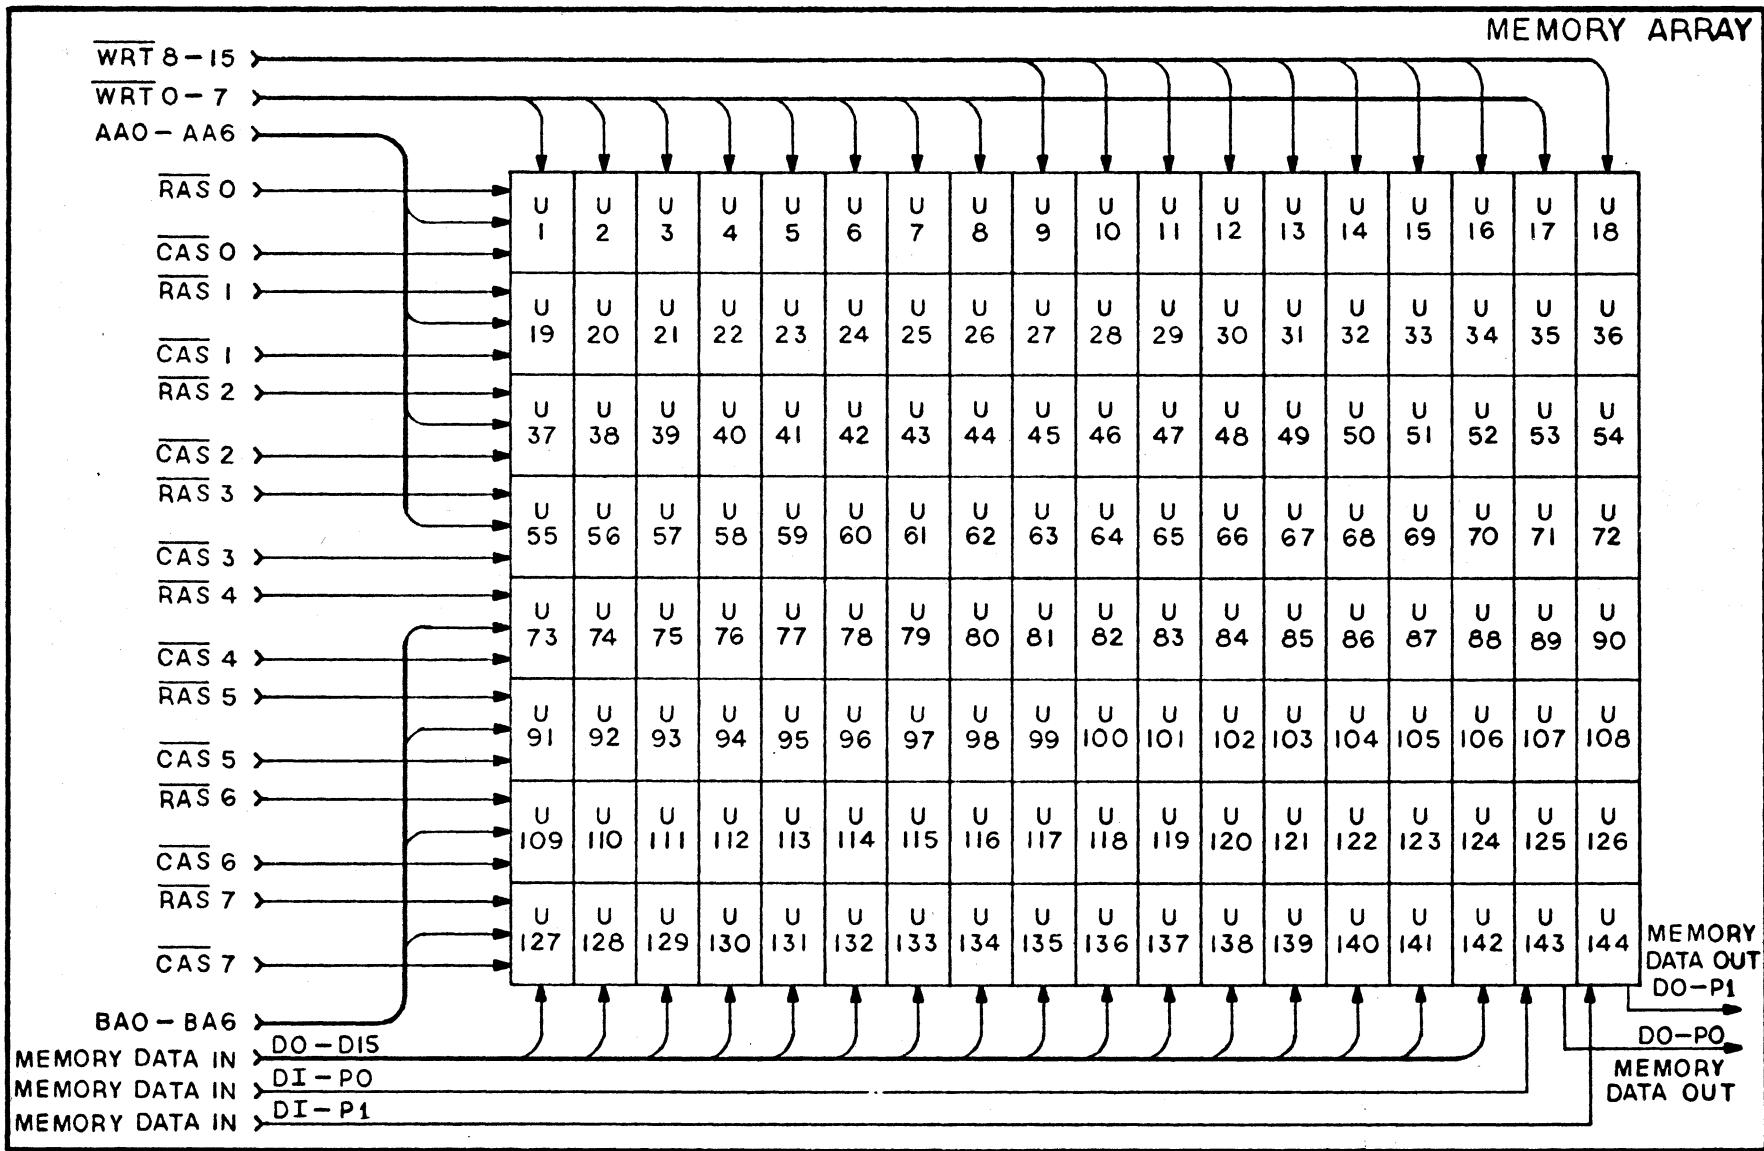

FIGURE 3-4
3.5 MEMORY ARRAY (FIGURE 3-4)
The Memory Array is comprised of 144 16K Dynamic Rams in a 8x18 matrix. Each Byte contains 128Kx9 bits of memory; eight data bits and a parity bit. Addresses A₀ thru A₆ are common to all Rams. RAS and CAS signals (1 of 8) are common to each row. Basic Array organization is shown in Figure 3-4.